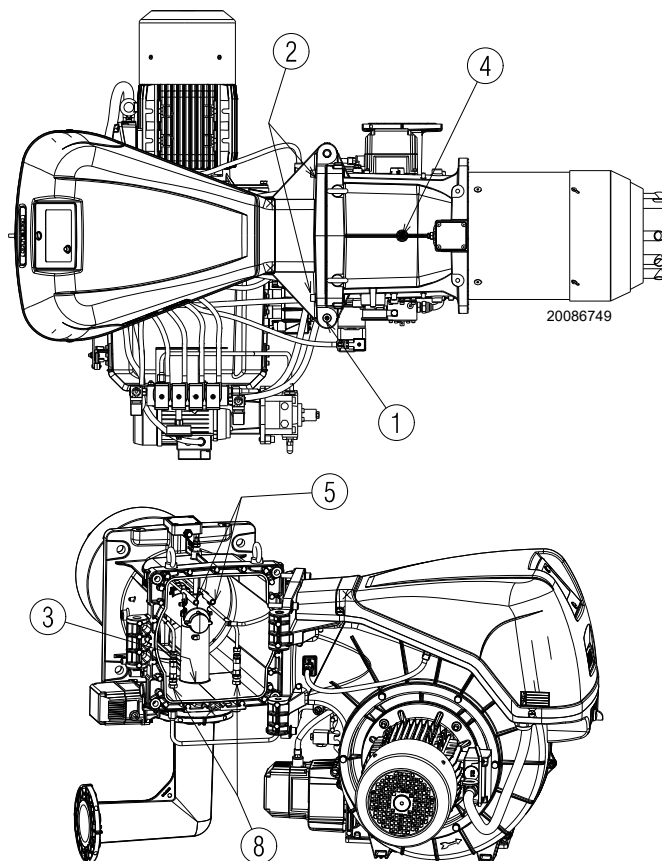

Fig. 17
The burner leaves the factory set for opening to the right, therefore maintaining the pin 1)(Fig. 17) in its housing.
- C Fully open the burner as in Fig. 17.
To open the burner from the opposite side, before removing the pin 1)(Fig. 17), make sure that the 4 screws 2) are tight. Then shift the pin 1) to the opposite side, only then is it possible to remove the screws 2). Disconnect the socket 9 (Fig. 17) of the maximum gas pressure switch, then proceed as described above at point C).